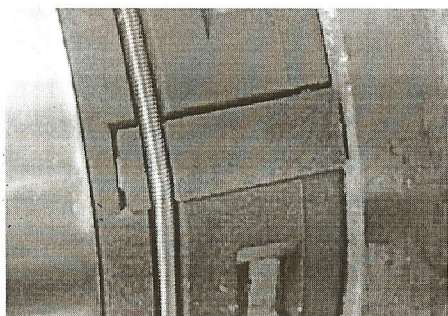

FIGURE 5
- 5-) Install the four keyways in their respective places [Fig. 5], taking care to fit them with the groove upward as shown in [Fig. 5].